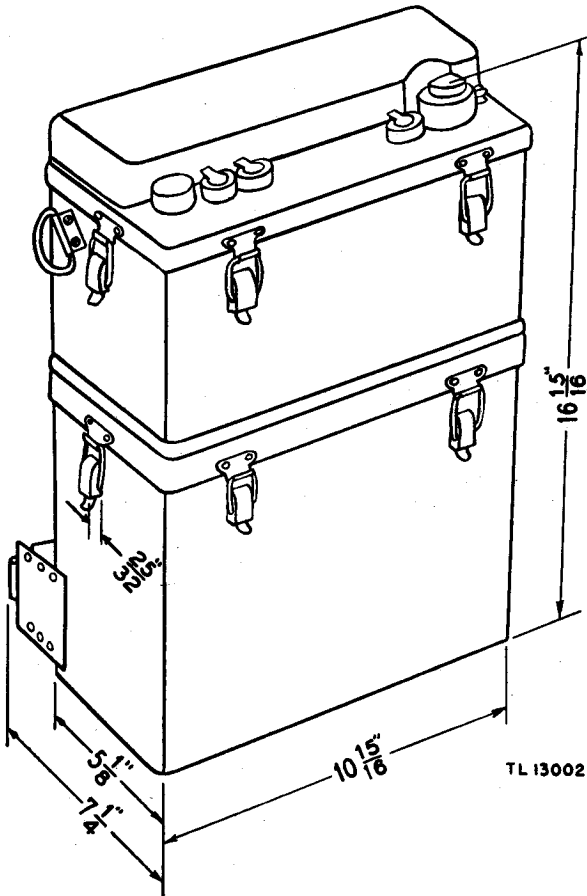

Figure 5. Radio Receiver and Transmitter BC-1000-A—outline dimensional drawing.
a. The single Radio Set SCR-300-A is packed in a cardboard carton $20\frac{7}{8}$ inches long, $15\frac{5}{8}$ inches wide, and $10\frac{1}{4}$ inches deep. The total weight is $35\frac{1}{2}$ pounds. For dimensions of the unpacked set, see figure 5 and consult table II.